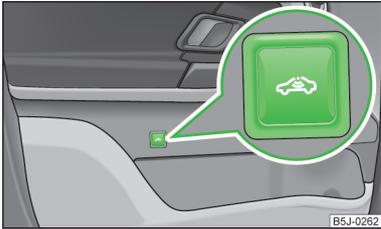

Fig. 34
- > Press the  » Fig. 34 button in the driver's door.